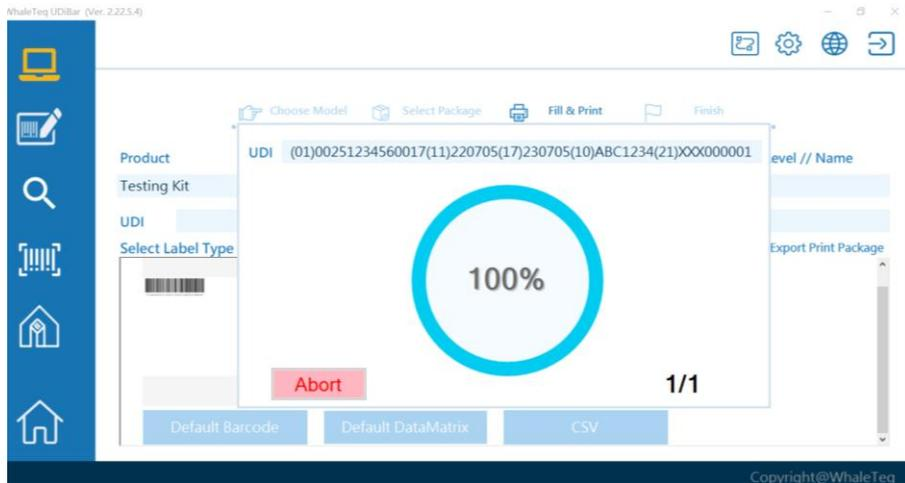

Figure 76: Label printing
(6) Label printing process is shown in figure 76: